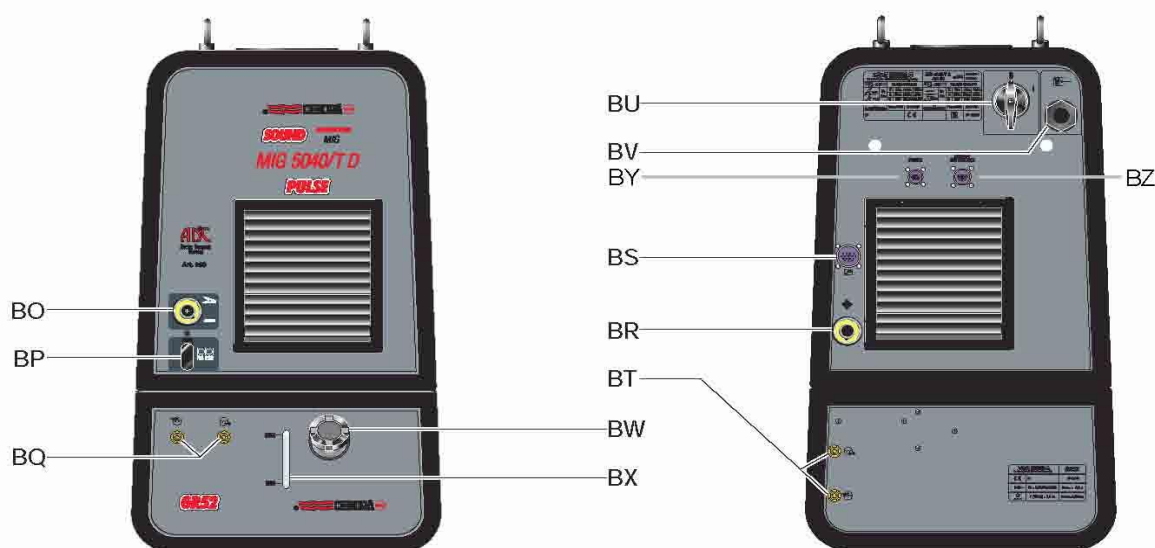

fig. 3
Power up the Welding System using the switch **BU** of the Power Source (fig. 3).
3.3 **Setting up the cooling unit (fig 3).**
4.2 Power Source description (fig. 3).
5.2 Cooling Unit description (fig. 3).